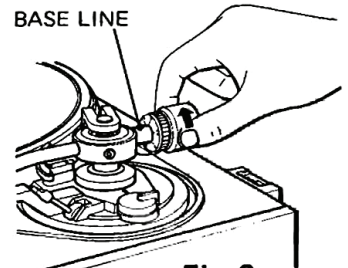

Fig. 8
- 3 To adjust the tracking force, simply rotate the counterweight clockwise until the indicator dial shows the correct tracking force recommended by the manufacturer of your cartridge (Fig. 8).